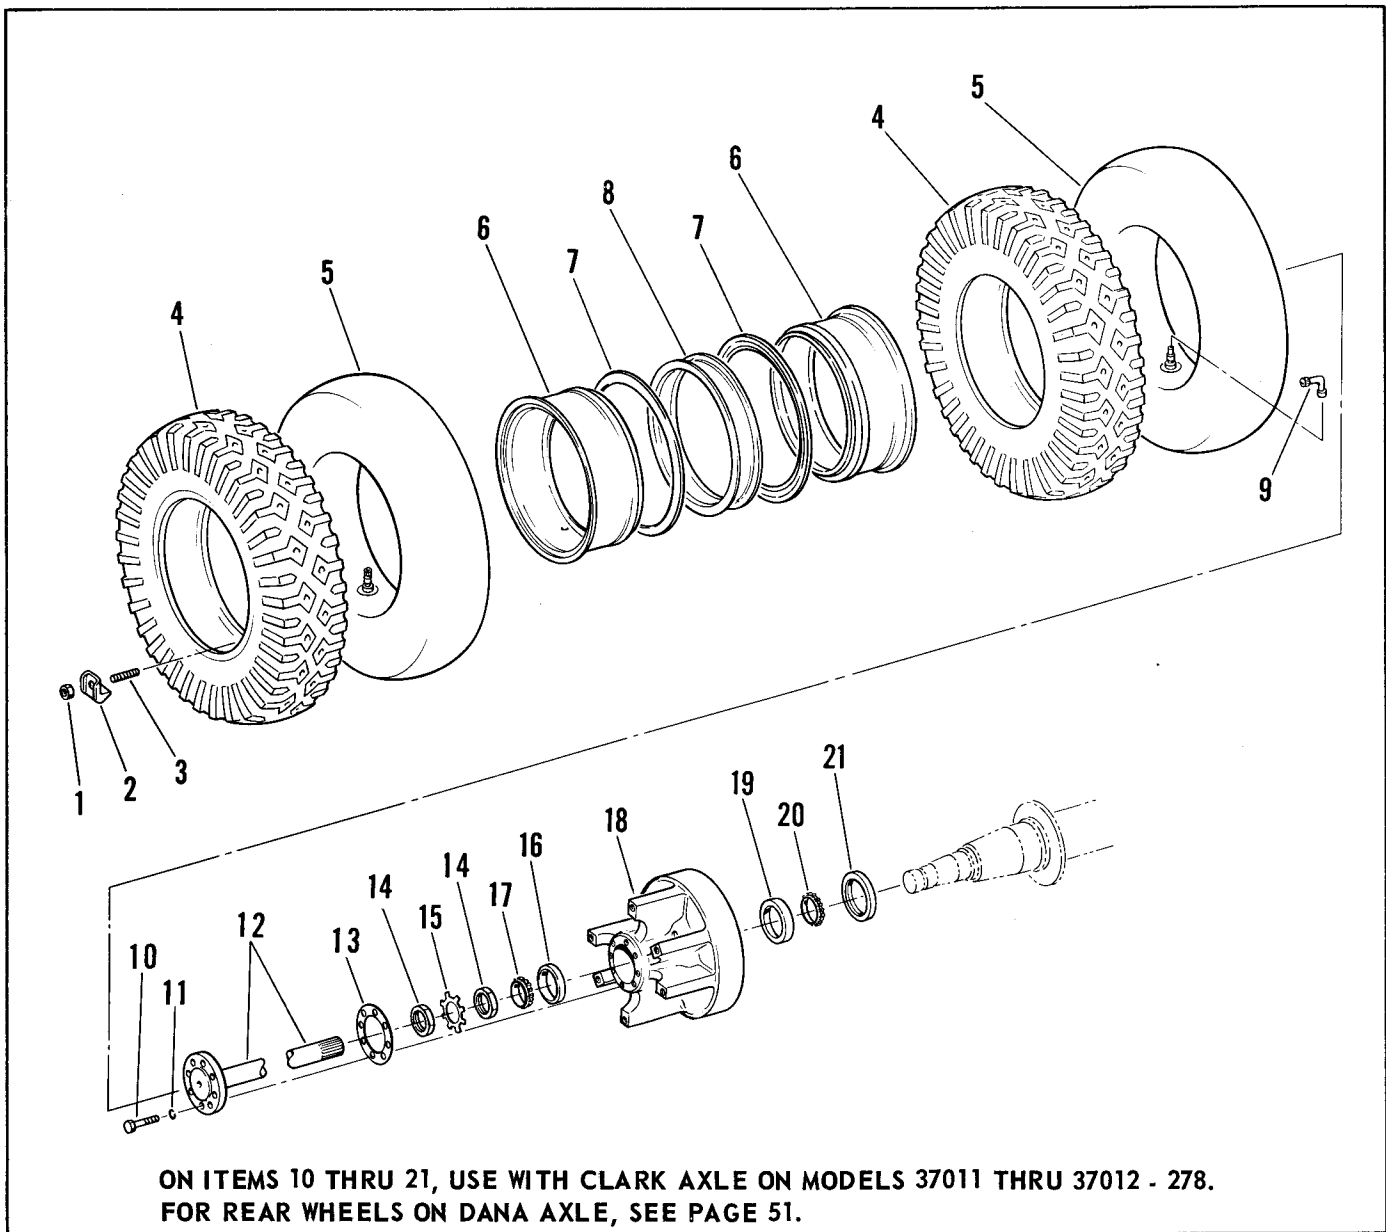

Figure 27. Rear Wheels And Axle Shafts
\*Also includes items 12, 14, and 15, fig. 27.